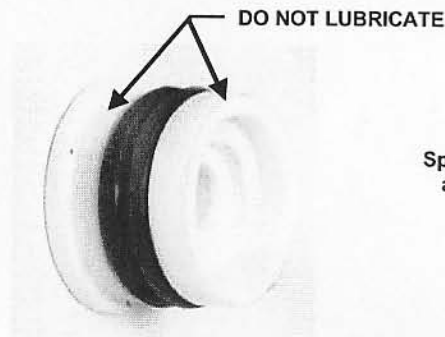

Fig. 30
- e. Install two o-rings onto the shaft bearing - Fig. 30.
**Spigot plunger (2)**
**Spinner shaft bearing (2) - Fig. 30**
**BE CERTAIN TO KEEP ALL LUBRICATION AWAY FROM THE TWO O-RINGS BETWEEN THE ARROWS IN FIG. 30. THE BEARING MUST BE "DRY" INSERTED INTO THE MIXING BLOCK OR THE BEARING MAY SPIN IN THE MIXING BLOCK.**